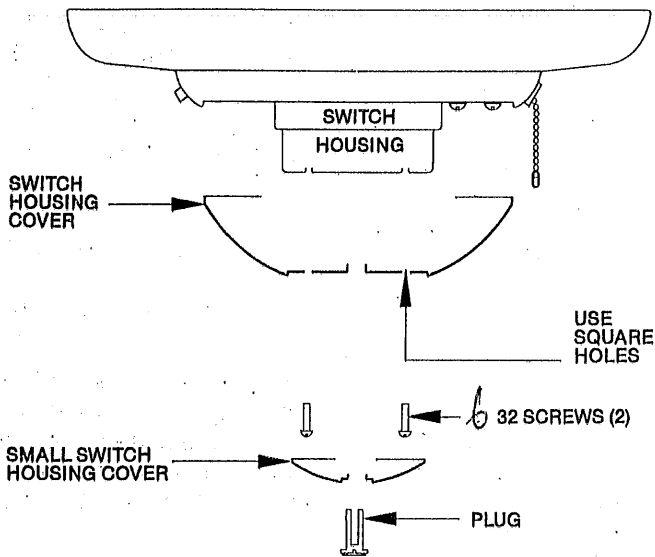

Figure 8A. Installing Small Switch Housing Cover
B. Assemble the switch housing cover as shown in figure 8A using (2) #8-32 screws. Make sure you use the two square clearance holes in the bottom of the cover. These holes will line up with the (2) threaded holes closest to the large round hole in the bottom center of the switch housing.
C. Complete the fan assembly by attaching the small round cover to the bottom of the switch housing cover. See figure 8A. First insert the plastic plug into the hole in the small cover and insert the end of the plug into the center hole in the switch housing cover. Push plug and small cover in place. It will be a snug fit against the large cover.